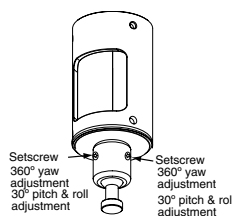

Figure 6
- ① Attach Bracket Adapter and Ball Joint Assembly to column (1½" NPT pipe) and secure with provided screw. For increased security, replace the standard screw with a security screw (provided). For additional security, remove the three standard screws holding the Ball Joint in the Bracket Adapter, and replace with provided security screws.
- ② If appropriate, run cabling down through pipe and out through opening in Bracket Adapter.
- ③ Install Aero Universal Projector Bracket on projector if applicable (see separate instructions). Then, attach bracket and projector to Aero Accuset ball joint (see Fig. 6).
- ① Screw Flush Extension into Ceiling Plate.
- ② Attach Bracket Adapter and Ball Joint Assembly to Flush Extension and secure with provided screw. For increased security, replace the standard screw with a security screw (provided). For additional security, remove the three standard screws holding the Ball Joint in the Bracket Adapter, and replace with provided security screws.
- ③ Use ceiling plate to mark ceiling.
- ④ If appropriate, run cabling down through Flush Extension and out through opening in Bracket Adapter.
- ⑤ Attach plate to ceiling. If using optional Angled Mounting Plate, attach Ceiling Mounting Plate to Angled Mounting Plate using ¼"-20 x 5/8" long hex head screws (provided), then attach Angled Ceiling Mounting Plate to ceiling (hardware for ceiling attachment not included).
- ⑥ Install Aero Universal Projector Bracket on projector if applicable (see separate instructions). Then, attach bracket and projector to Aero Accuset ball joint (see Fig. 6).